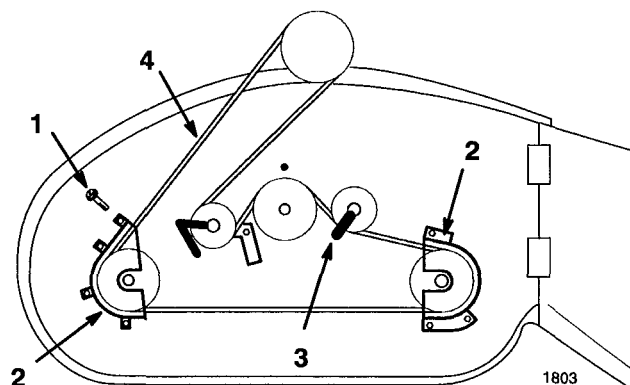

Figure 29
2. Remove the pulley cover mounting screws and pulley covers from blade pulleys (Fig. 29).
3. Loosen idler pulley mounting bolts to move belt guides (Fig. 29).
4. Remove the belt from the pulleys (Fig. 29).
2. Adjust belt guide on idler pulley as shown and tighten mounting bolt (Fig. 29).
3. Install the left and right pulley covers with the mounting screws (Fig. 29).